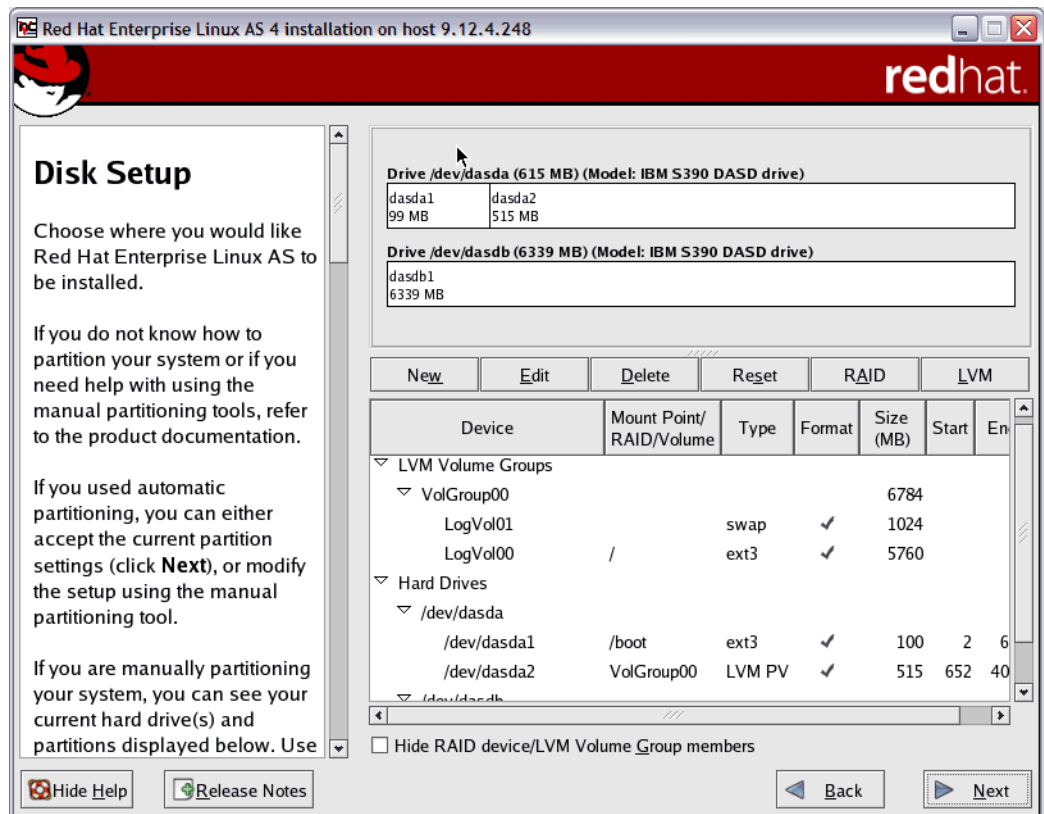

Figure E-7 Disk setup panel
- In our case, we chose **Automatically partition the disk space, using default options**. Figure E-7 on page 300 shows how the space will be automatically allocated by Red Hat.